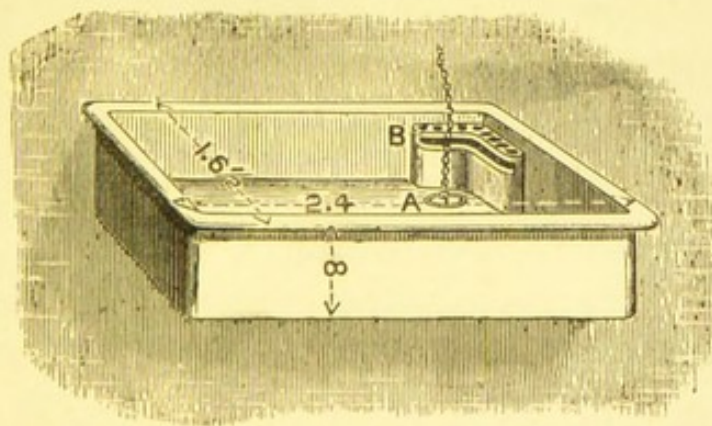

FIG. 112.—View of "Nursemaid's" Sink.
Fig. 112 shows a *strong white-ware* sink,
- O.—“*Washing-up*” sink.—See Fig. 31, p. 97; also see Figs. 112 and 113, pp. 247 and 248.